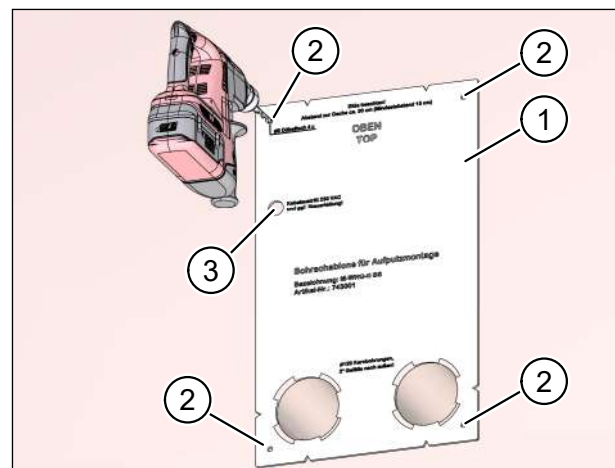

Fig. 19: Holes for dowels and marks for connecting cables
- ▶ Position the drilling template (item 1 in Fig. 19) precisely over the two core drill holes.
- ▶ Mark the four holes (item 2 in Fig. 19) for the dowels for fixing the ventilation unit to the internal wall.
- ▶ Mark the position of the cable outlet for the mains and control cables (item 3 in Fig. 19) for the ventilation unit. This mark identifies the end of the wall channel that needs to be chased out for the mains and control cable.